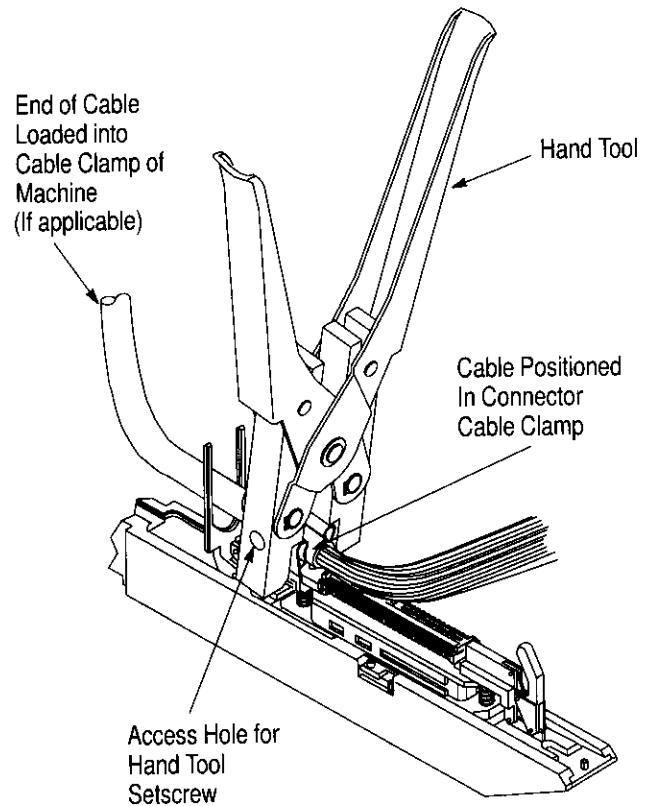

Figure 9
3. Load the cable into the cable clamp of the machine and into the cable clamp of the connector. See Figure 9.
4. Crimp the cable in the connector cable clamp using the hand tool, as shown in Figure 9.